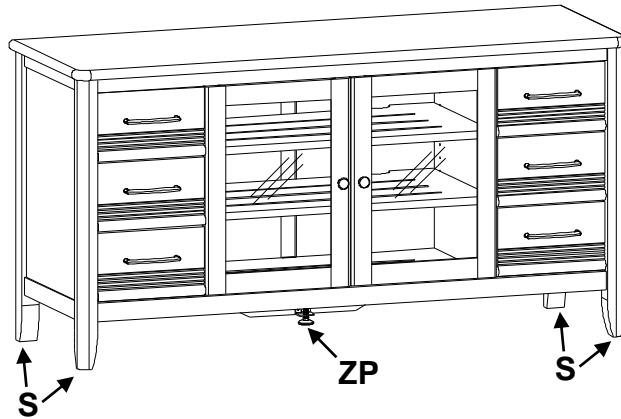

Fig. 1
1. Place the console at its final destination. Rotate the Adjustable Glides (S) found at the corners of the unit and (ZP) at the bottom of the Center Foot until the unit is level. See Figure 1.